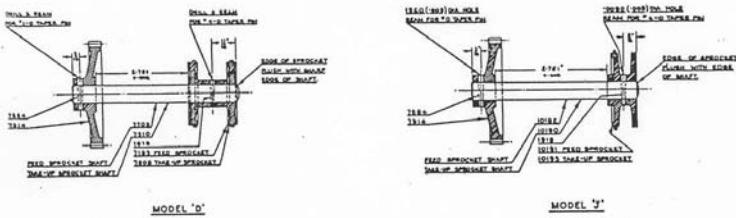

FIGURE 13. SPROCKET ASSEMBLY.
1. Sprockets must be accurately located on the sprocket shaft to ensure correct alignment. Figure 13 shows the dimension that must be maintained.